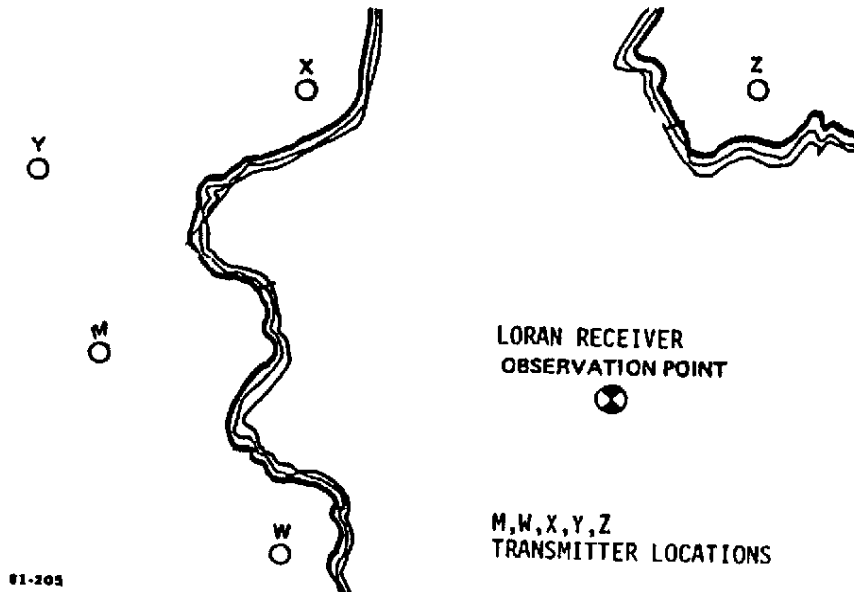

Figure 1. Typical Loran C Chain Configuration
Generally, the Loran C receiver must be programmed to recognize and identify the Master station GRI of the Loran C chain. Once programmed, the receiver can measure the TD's and present them on a digital readout display. Figure 1 illustrates a typical Loran C chain configuration. The Master (M) and Secondaries W, X, Y and Z are separated by several hundred miles.